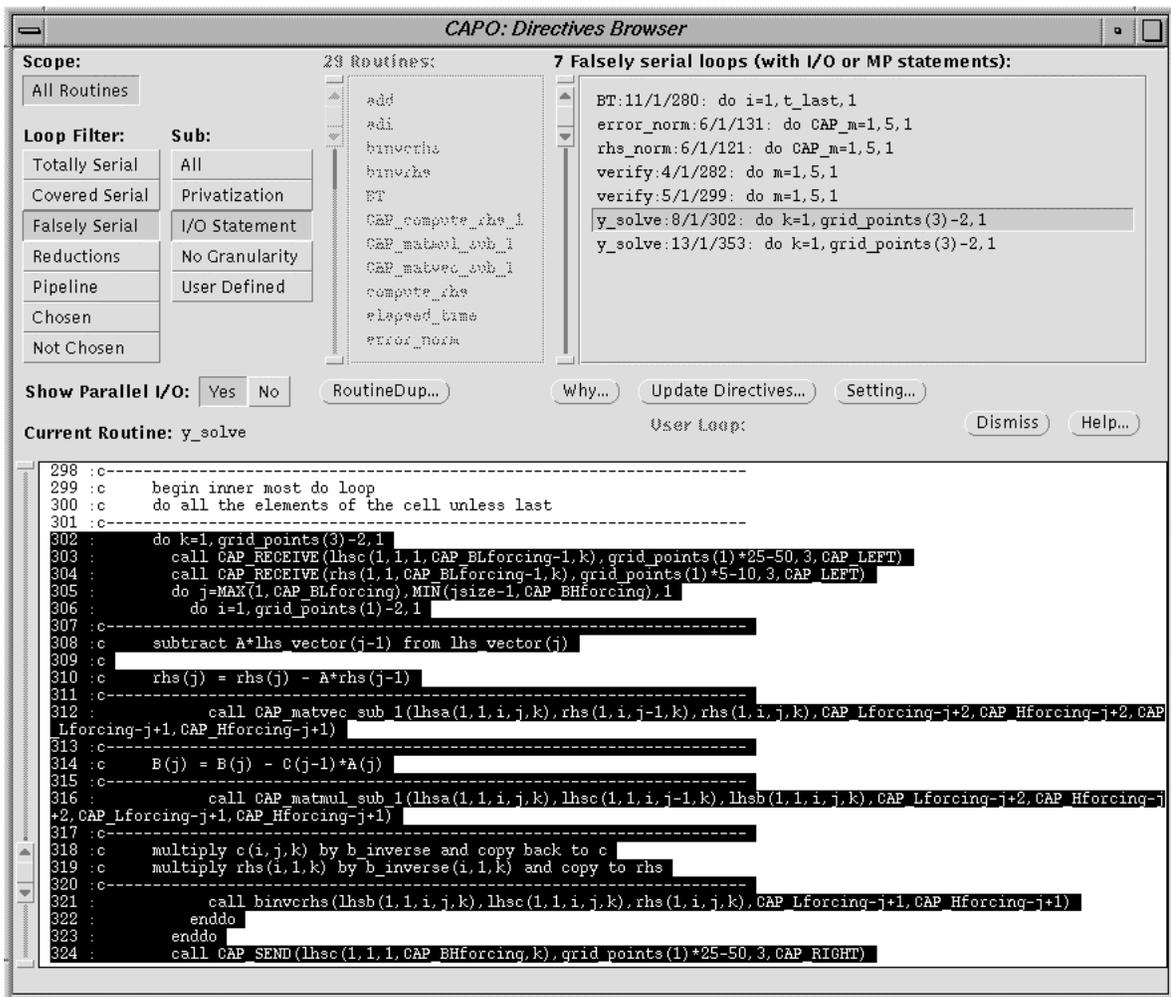
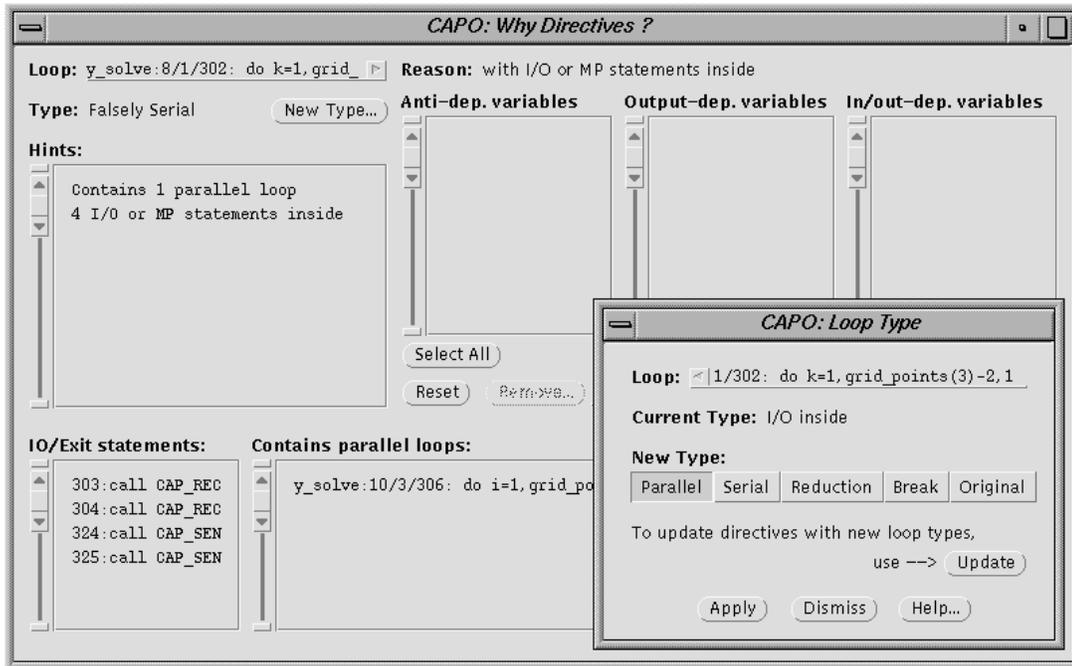

Figure T5-6: The Directives Browser window for the Falsely Serial and I/O Statement type.
Figure T5-7: The WhyDirectives window for the selected loop and the LoopType window for defining a new loop type.
10. Re-enforce new loop types. In the Directives browser window, select the **All Routines** scope, the **Falsely Serial** loop filter and **I/O Statement** sub filter (Figure T5-6). There are two κ loops listed under this category. Choose the first loop: `y_solve:8/1/302: do k=1,grid..` and click the **Why** button. The **WhyDirectives** window (see Figure T5-7) indicates that there are four MP (Message-Passing) calls (as part of the parallel pipelines) inside the κ loop, which serialize the κ loop. If nothing is done here, the inside Γ loop will be chosen for the second level parallelization with directives, which will not give a good performance.
In order to improve the performance, we can enforce a parallel type for the two κ loops with an assumption that the MP calls are thread-safe. This is possible within the context of MPI-2. To define a new loop type, click the **New Type** button in the **WhyDirectives** window (Figure T5-7). Select new type **Parallel** and push **Apply**. A new entry is now added to file `userloop.par`.